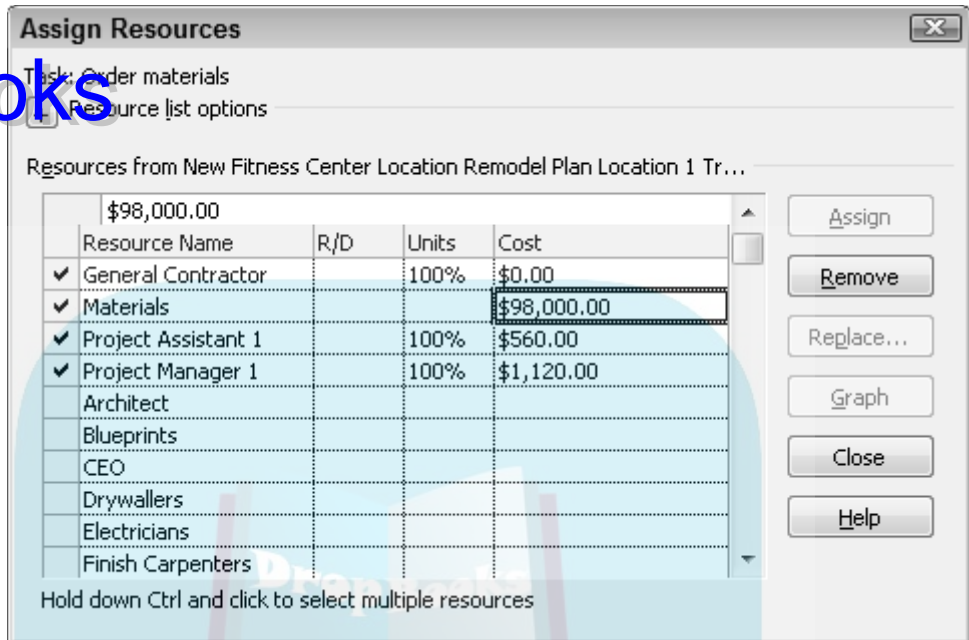

Figure 15-8: Use the Assign Resources dialog box to modify the assignment cost for a cost resource.
- ✓ **Use less expensive materials:** Change the unit price for material resources you've created in Resource Sheet view, as shown in Figure 15-7. Or, shop around for better pricing on items that are set up as cost resources, and enter the lower prices for tasks to which you've assigned those resources using the Cost column of the Assign Resources dialog box, as shown in Figure 15-8.